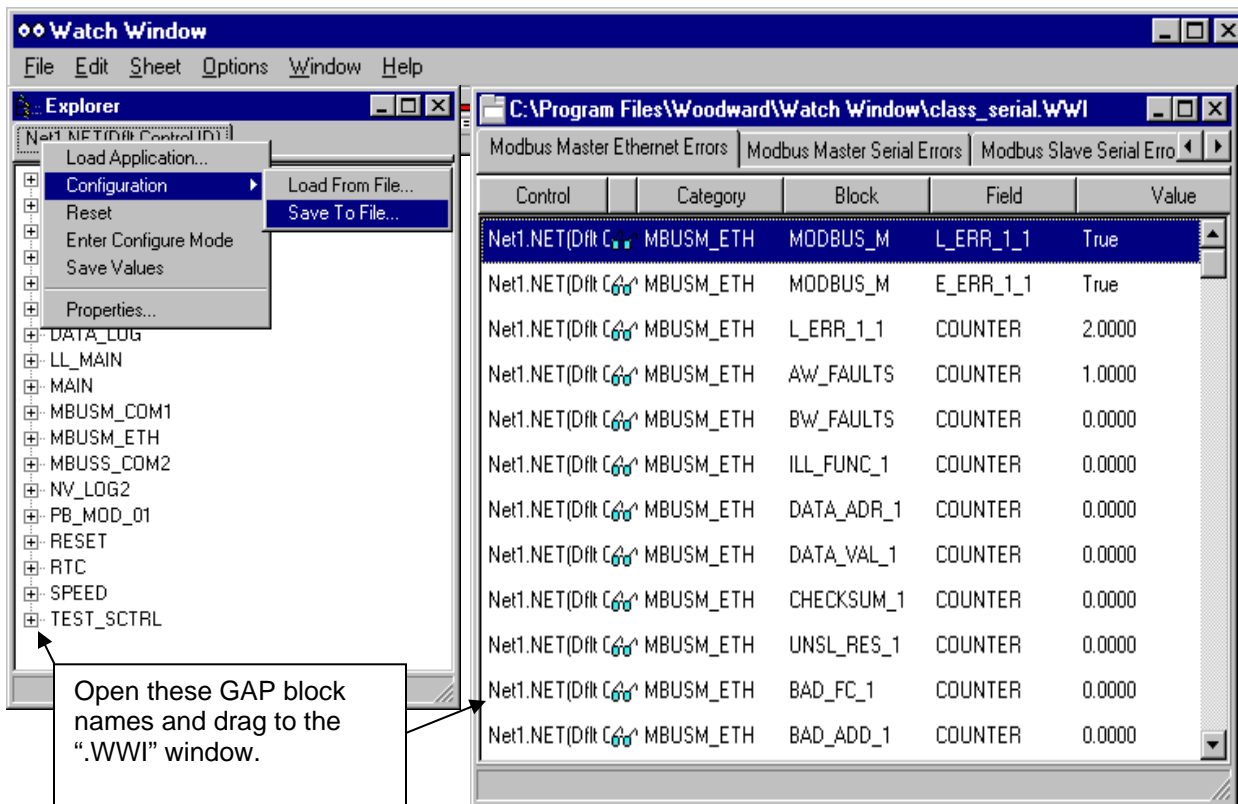

Figure 4-2. Watch Window Screen
6. Open Watch Window Professional or Standard. See Figure 4-2. Open a New file. You can Add sheets and build the window.
Watch Window is supported on the AtlasPC, but certain functions are not. In order to use certain functions some procedures must be followed for them to work correctly. If a right mouse click is performed on the .net file tab under the left “Explorer” window, the following functions are displayed (see Figure 4-2):